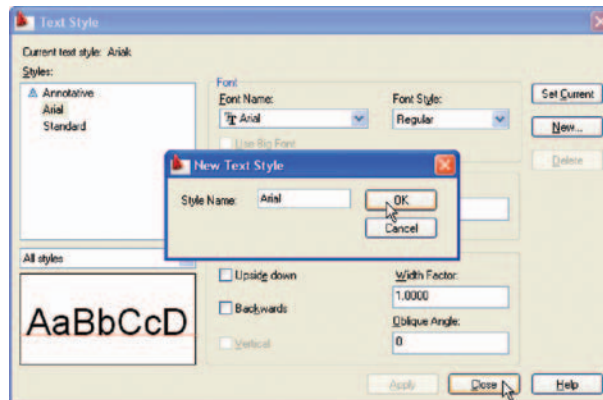

Fig. 4.9 The **New Text Style** sub-dialog
3. *Left-click* the **New** button and *enter Arial* in the **New text style** sub-dialog which appears (Fig. 4.9) and *click* the **OK** button.